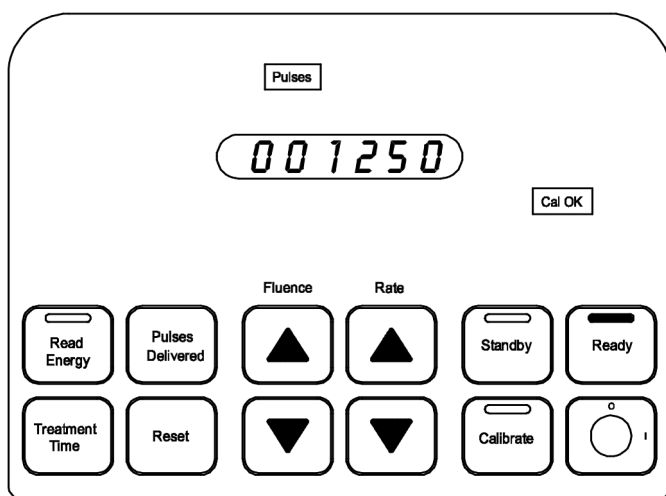

**Figure 10**
5. Depressing the footswitch causes the red **Lasing** light and red status light on the top of the control panel to illuminate. (Figure 10)